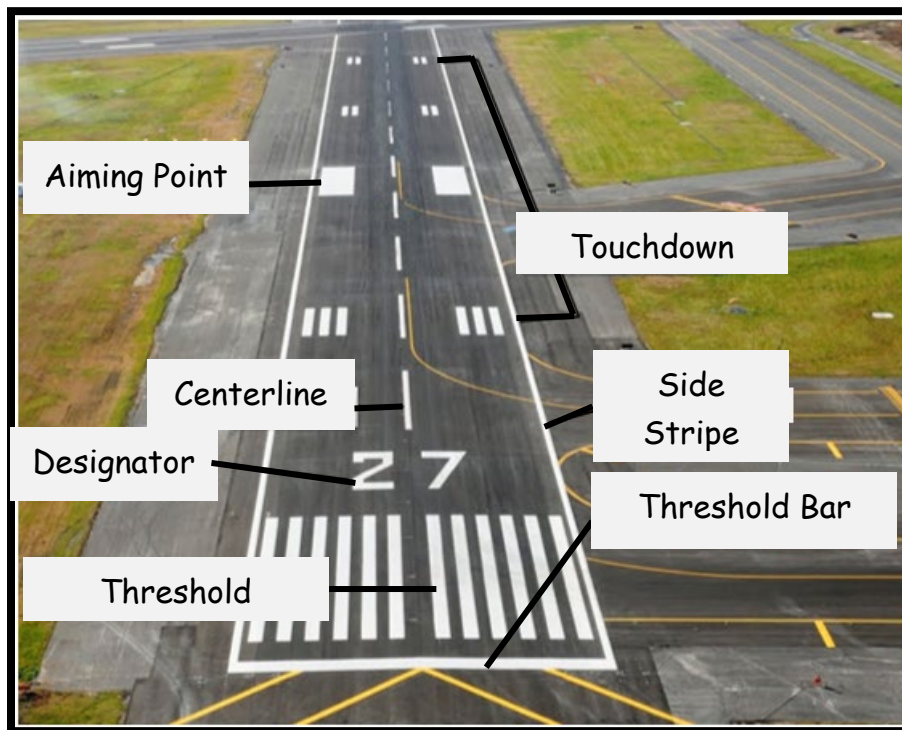

Figure 5 – Runway Markings
- ✈ White painted markings that include edge lines and centerlines, precision approach markings, and runway designator markings (see **Figure 5**).